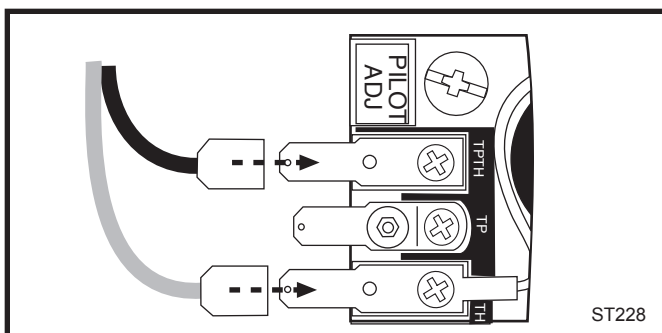

Fig. 26 Attach switch wires to valve.
3. Attach wires to valve terminals. (Fig. 26)
2. Connect the thermostat wires to the valve. (Fig. 26)